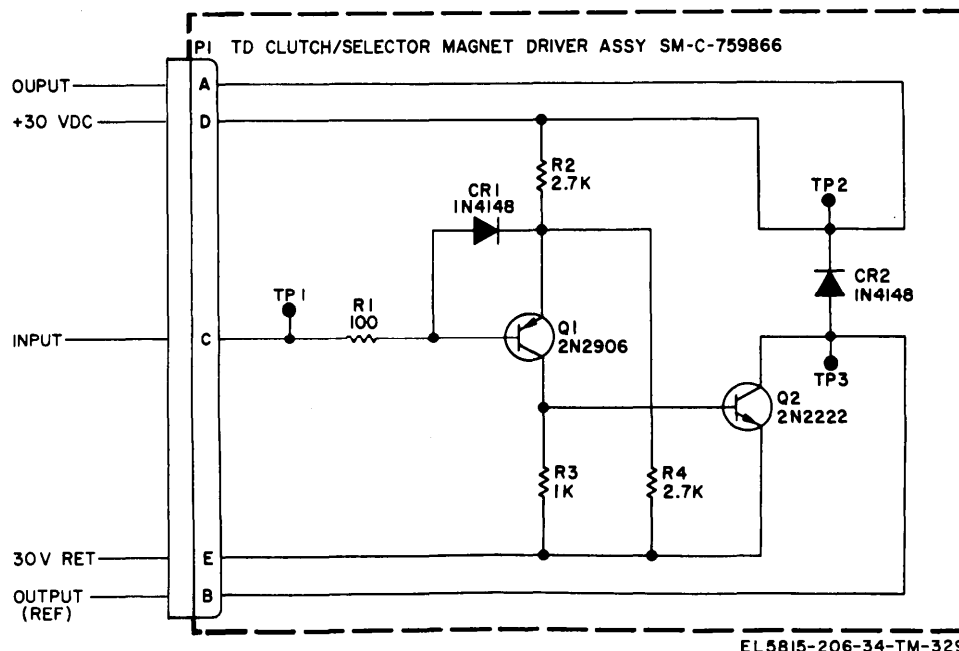

Figure 2-71. TD clutch/selector magnet driver module, simplified schematic diagram.
(2) TD Clutch/Selector Magnet Driver Module. (fig. 2-71). A -12 volts from the receiver, resulting from a mark input, causes the base of Q1 to drop negative with respect to the Q1 emitter. THIS SWITCHES Q1 on. With Q1 on, a positive voltage appears on the base of Q2, which switches transistor Q2 on. Since Q2 is in series with the selector magnet coil, a path is completed from the return line through Q2 and the selector magnet coil to the +30 volt line. The direction of current flow through the coil causes TP2 to be positive with respect to TP3. The selector magnet windings are arranged in series and the full value of the selector magnet driver current passes through each winding. The LINE INCREASE potentiometer is in series with the selector magnet to allow for optimum adjustment of selector magnet current. A +12 volts from the receiver, resulting from a space input, causes the base of Q1 to rise positive with respect to the Q1 emitter. This switches Q1 off. With Q1 off, a negative voltage appears on the base of Q2, which switches Q2 off. Since Q2 is in series with the selector magnet coil, current does not flow in the selector magnet coil.